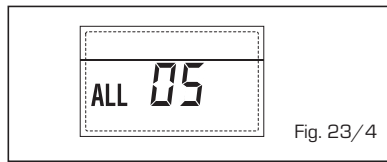

Fig. 23/4
**- BLOQUEIO CHAMA "ALL 06" (fig. 23/5)**